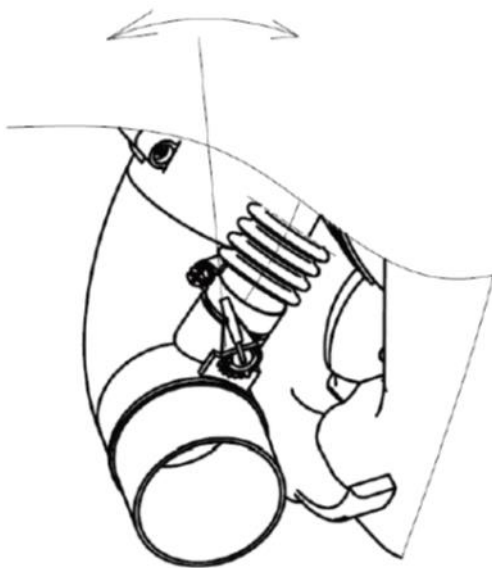

Fig. 10
(2)Dusting.Regulate the discharge by shifting the dust rod's position in the three holes of the rock-arm.See Fig.10.